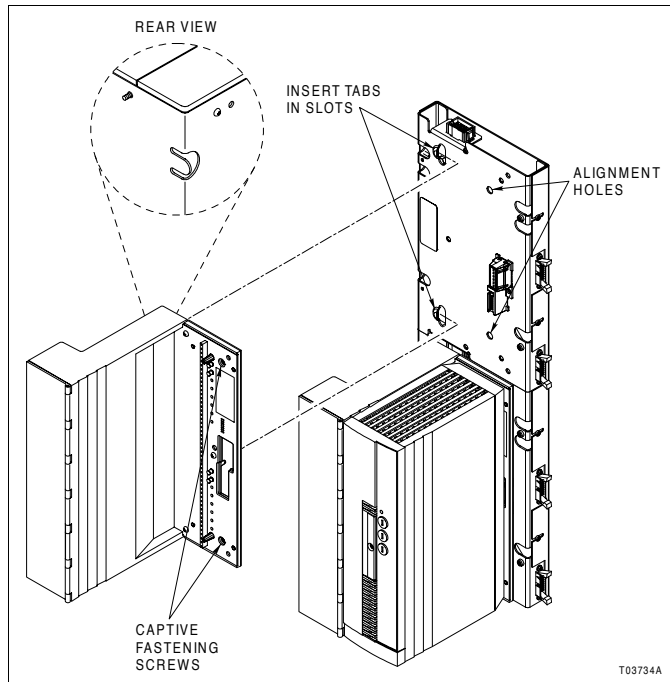

Figure PR3-1. SIM-100 Base Attachment
2. Position the base on the mounting column. Insert the tabs at the back, left side of the base into the slots in the column as shown in Figure PR3-1. Tilt the base slightly to properly insert the tabs. The base is properly positioned when the posts on the back of the base line up with the alignment holes in the column. The mounting column connectors should protrude through the base.